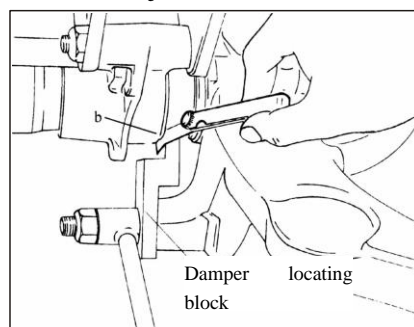

Figure 4-34 Install Rear Rocker in Position
(5) As indicated in Figure 4-34, put 0.05mm gauge between rear axle damper and rear axle tube, knock rocker arm with a wooden mallet, to place rocker arm axle in position inside axle tube, when clearance of b point reaches 0.05mm, job is done.